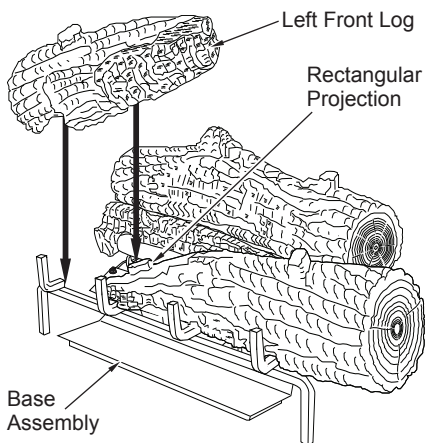

Figure 52 - Installing Left Front Log
- Place the left front log onto the base and the right front log as shown in Figure 52. The left front log has a notch on the bottom that will line up with the projection on the right front log.